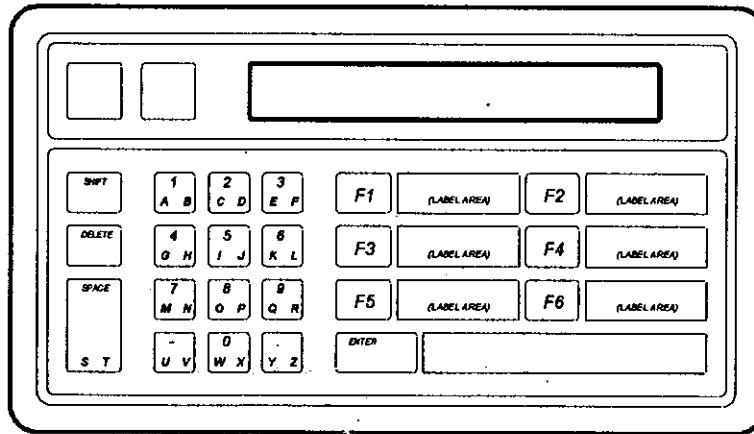
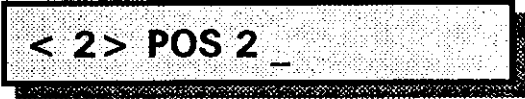

Figure 5. Keyboard and function key layout.
Figure 6. Default display for position 2.
As an example say duct #2 is spouted to bin 42. You would most likely prefer to press '42<enter>' as shown in Fig. 6 rather than the default shown in Fig. 5 to access this position. To program this, repeatedly press the enter key until the display shows "DUCT 2 name" (name would be "POS 2" by default). Then enter the number you wish to access this bin by; '42 <enter>'. If you also wished to access this position by using function key 3 you would instead press '42.3 <enter>'.